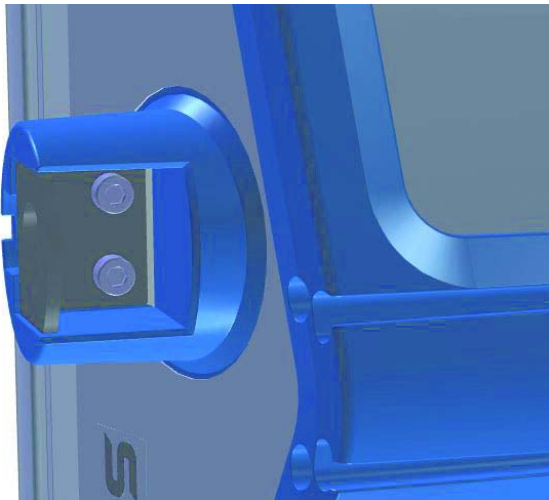

Figure 7: To mount the safety loop brackets
- Place one safety loop bracket in the holder on each side of the SkyPanels (see Figure 7).